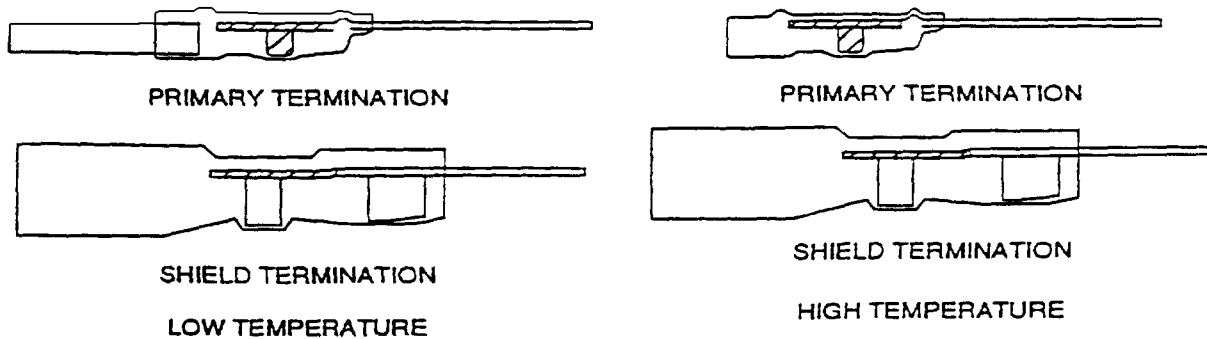

Figure 7 . Coaxial Cable Solder Sleeves
21. **COAXIAL CABLE SOLDER SLEEVE TERMINATIONS.** Coaxial cable solder sleeve terminations (Figure 7) are used to terminate coaxial cables to PC boards, solderless wrap terminals, and crimp solder connections. These solder sleeves consist of two heat-shrinkable thermoplastic sleeves, each containing a ground or signal lead, fluxed solder preform and thermoplastic sealing inserts. The thermoplastic sealing inserts melt when the sleeve is heated to form an environmentally protected termination and eliminates the possibility of a solder bridge between the center conductor and the shield. Two types of coaxial